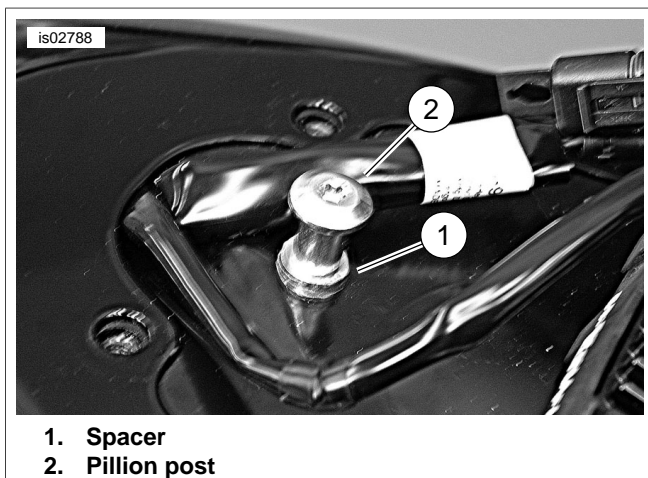

Figure 4. Install Pillion Post and Spacer
6. See Figure 4. Insert allen screw, washer and lockwasher from kit through fender. Insert spacer (1) from kit and pillion post from top side of seat pan and tighten to 10.9-17.6 Nm (8-13 ft-lbs).